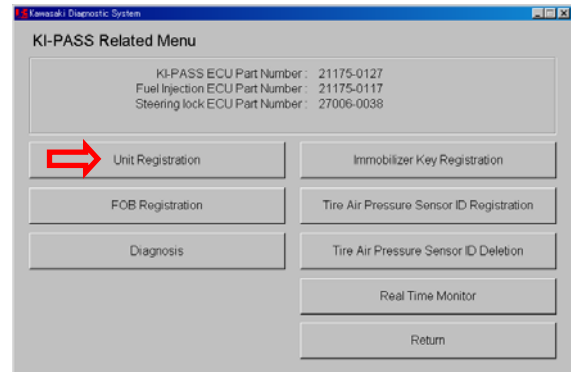

Fig. 5-48 KI-PASS Related Menu
- Select *Unit Registration* on the *KI-PASS Related Menu*. Fig. 5-48